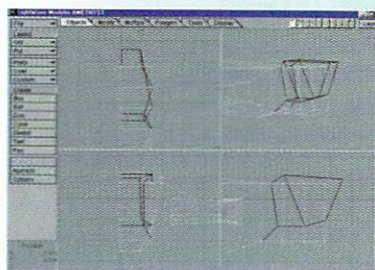

Figure 8
16. We'll create the basic shape of our head by selecting the +Z facing neck polygon Y: -3mm Z: 7.7cm and Smooth Shifting [shift - f] it three times with an Offset of 1cm and a Max Smoothing Angle of 0.0. Figure 8 shows the final Drag locations. Try to match the Left side first and then move to the Top View. The chart below lists the Drag locations in both the Left and Top Views and their corresponding Offsets. But before you read any further, try it on your own first; after all, this is supposed to be a learning experience.